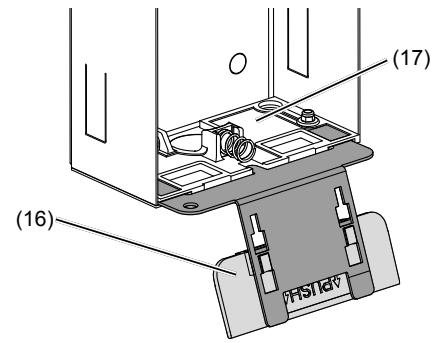

Figure 5: inserted opening tool
(15) Support bracket of the fastening elements
- Insert opening tool (16) into the mounting device of the lower fastening element (17) on the housing (Figure 5).
(16) Opening tool
(17) Fixing element
- Attach the loops of the safety rope (17) to the upper left suspension of the door station and to the upper fastening element (16) in the housing. Place the door station for installation onto the opening tool (Figure 5).